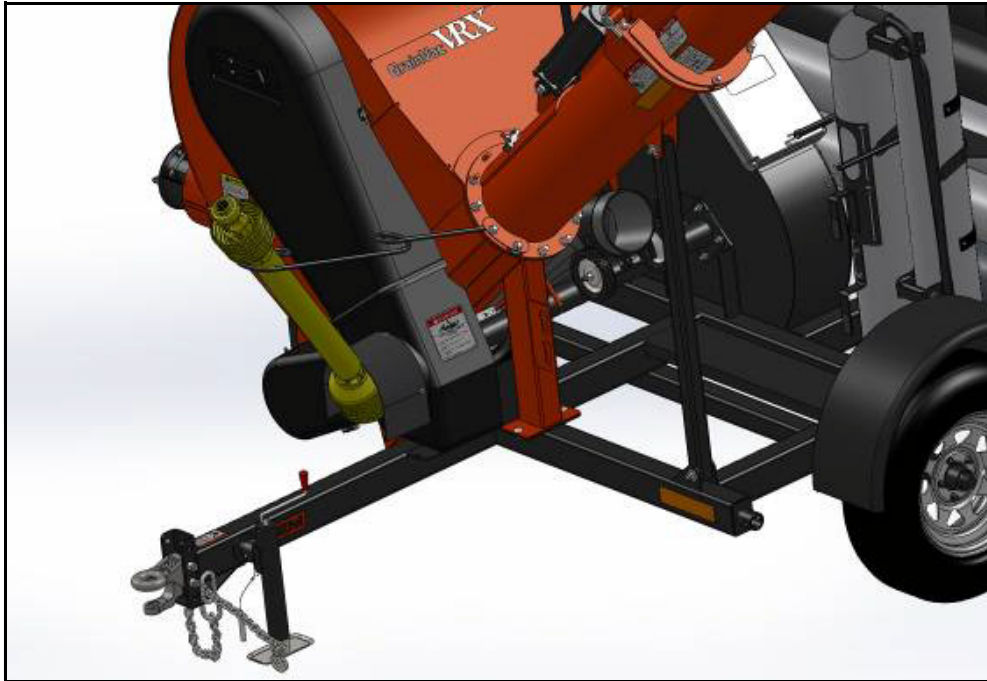

Figure 3.1 Jack and PTO in Storage Position
3. Use the jack stand (see Figure 3.1) to raise or lower the hitch to the required height for attaching.